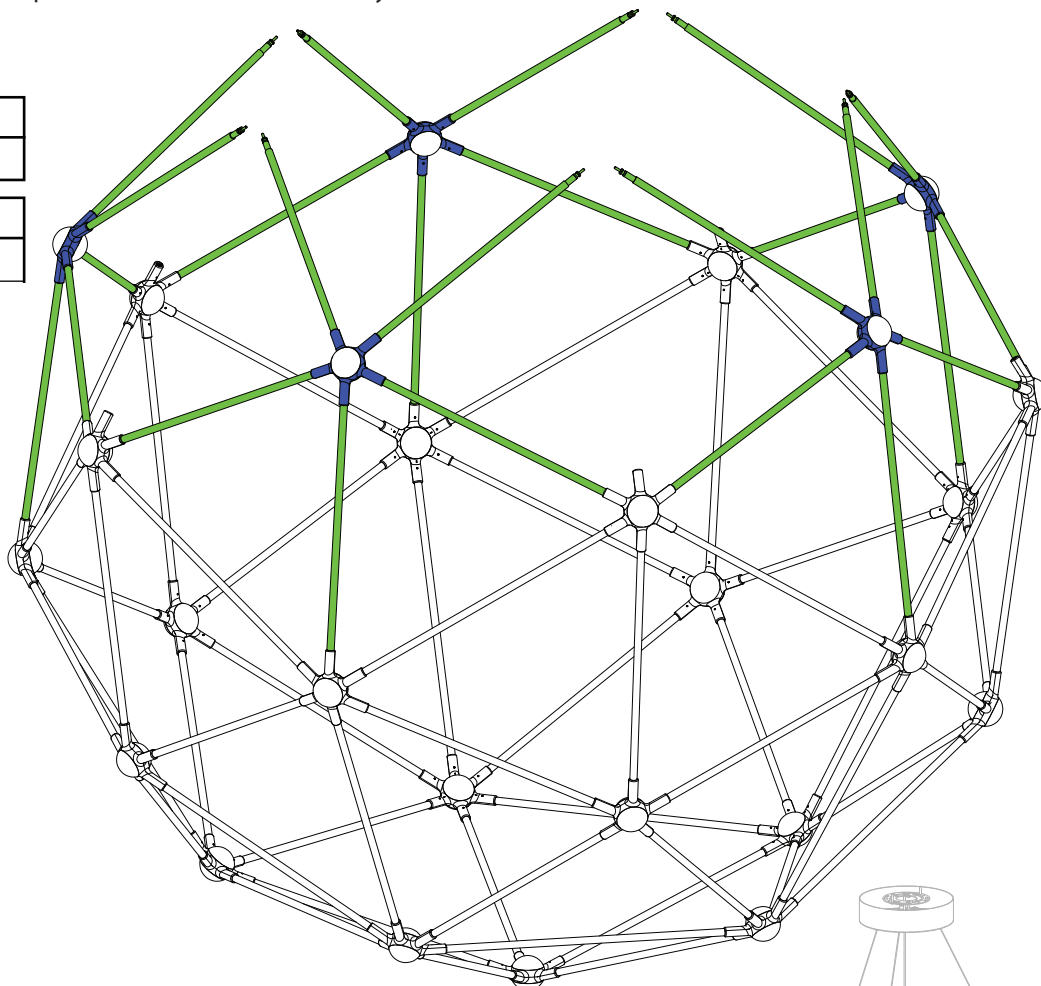

Fig. 12
- Attach five of the completed H5 Hub clusters to H6 Hubs as shown in Fig. 12.